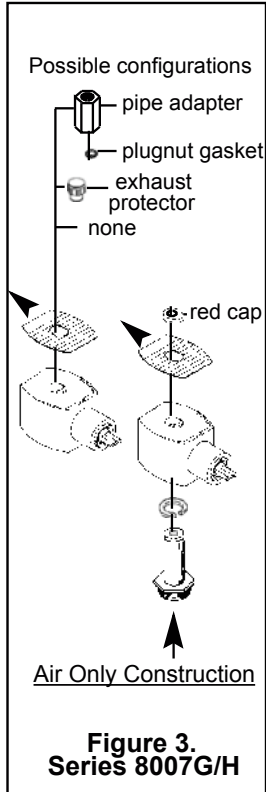

Figure 3. Series 8007G/H
3. Remove red cap or retainer from top of solenoid base sub-assembly. For 3-way construction with pipe adapter (Figure 3), remove pipe adapter, nameplate and solenoid. Omit steps 4 and 5.